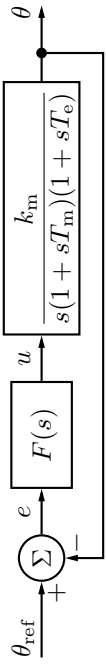

Figure 5.4a
5.4 Figure 5.4a shows a position servo including a DC-motor. The extra time constant  $T_e$  is due to the inductance in the winding of the motor, which is usually not taken into account. The parameter values are  $k_m = 10$ ,  $T_m = 0.1$  and  $T_e = 0.01$ . We want the servo to fulfill the following specifications: